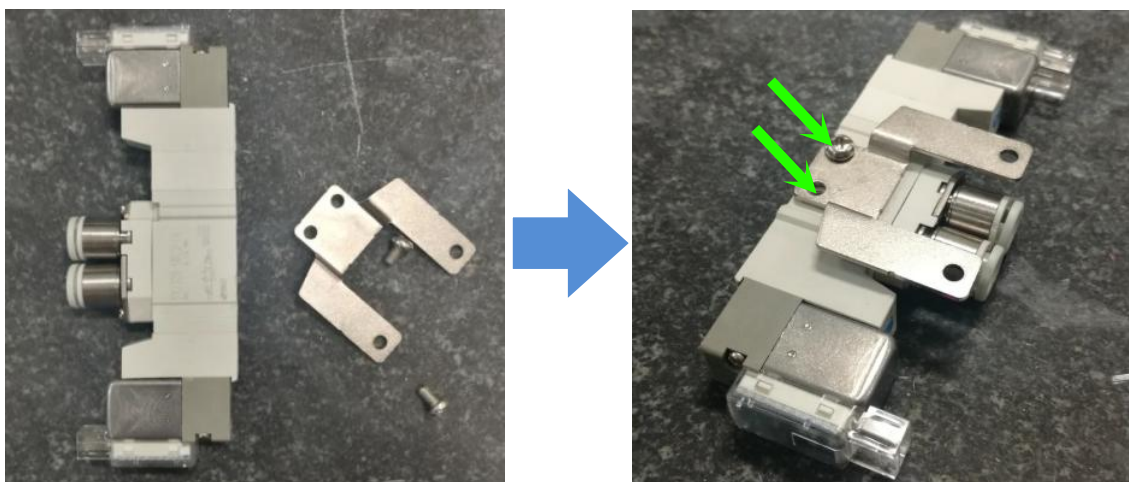

Figure 6 Holding Bracket Transplant
9. Remove the Holding Bracket from Adj Rail Clamper Pneumatic Valve (Previously dismantle). Assemble the Holding Bracket to new “S2 EX Clamper Controller Kit”. May refer to below Figure 6